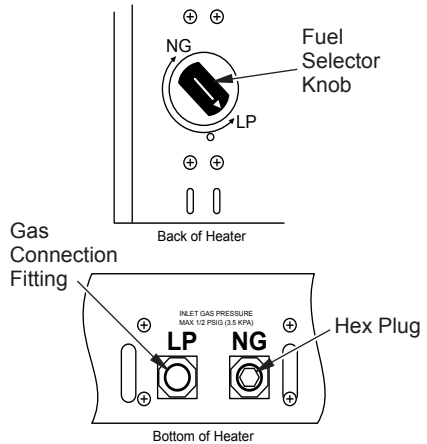

Figure 13 - Settings for Propane/LP Gas Selection
1. Remove top screw from cover plate located on back of heater (see Figure 13). Rotate to expose fuel selection device.
2. For propane gas, press in knob using a flat screwdriver with a blade the thickness of a quarter and turn knob counterclockwise  until the knob locks into the LP position (see Figure 13). Fuel selection device must be locked in the LP position. Do not operate heater between locked positions.
4. Remove hex plug (with wrench provided) from propane/LP gas inlet of regulator (see Figure 13). Install hex plug into NG inlet of regulator. Install gas line into propane/LP inlet of regulator. Use thread sealant to ensure that there are no leaks.